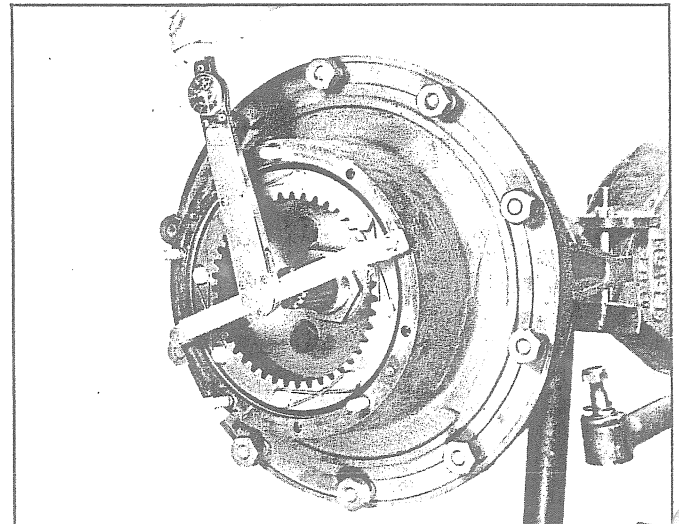

Fig. 33 - Checking Rolling Torque on Hub Bearings
27. Attach special tool to hub and check rolling torque as shown in Fig. 33. The rolling